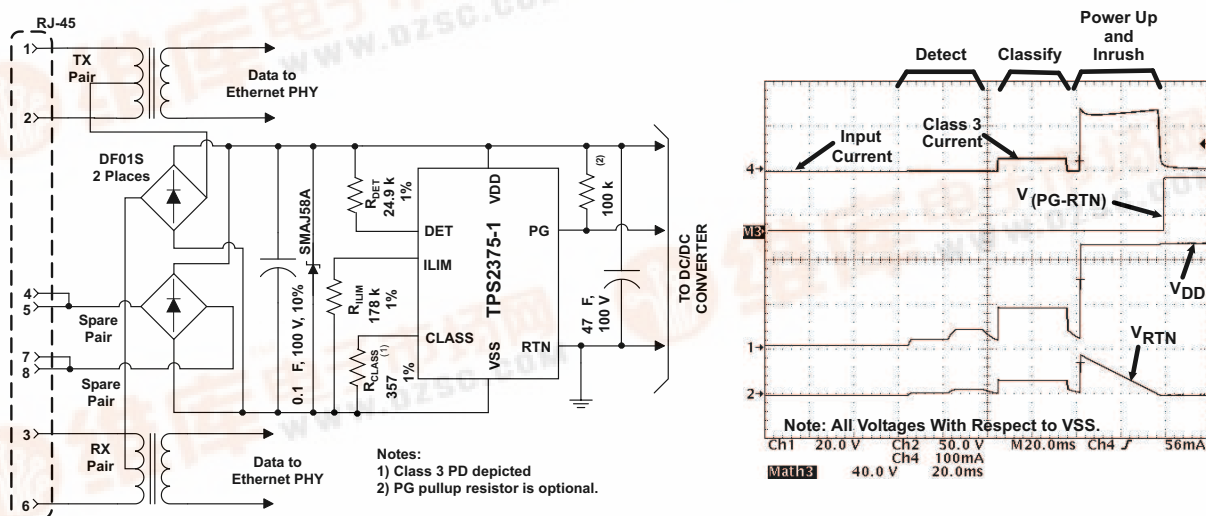

Figure 1. Typical Application Circuit and Start-Up Waveforms
(1) Stresses beyond those listed under “absolute maximum ratings” may cause permanent damage to the device. These are stress ratings only, and functional operation of the device at these or any other conditions beyond those indicated under “recommended operating conditions” is not implied. Exposure to absolute–maximum–rated conditions for extended periods may affect device reliability.
(3) SOA limited to $V_{(RTN)} = 80$ V and $I_{(RTN)} = 515$ mA.
(4) Surges applied to RJ-45 of Figure 1 between pins of RJ-45, and between pins and output voltage rails per EN61000-4-2, 1999.